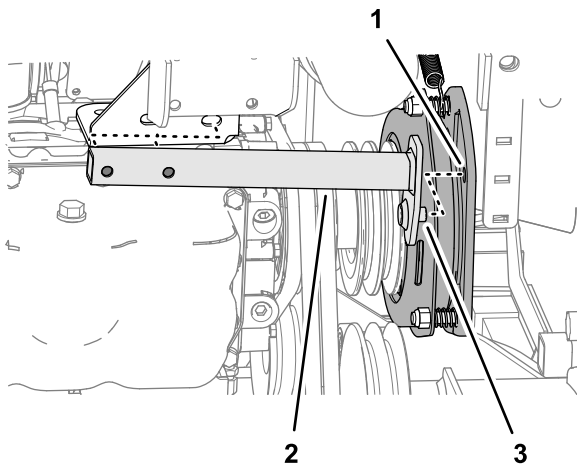

**Figure 91**
6. Remove the 2 bolts and 2 nuts that secure the anti-rotation tube to the right engine mount (Figure 91).